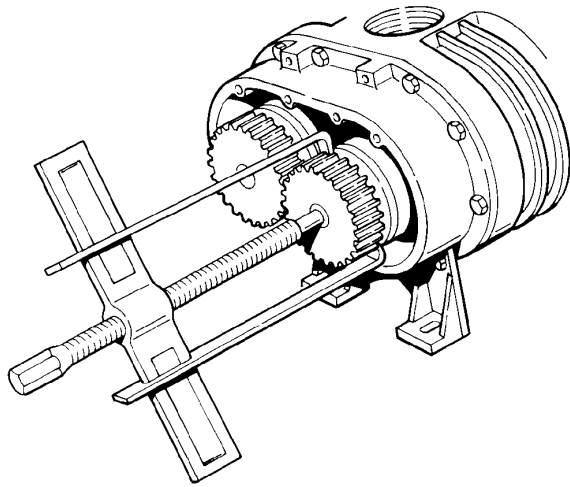

FIGURE 14
6. Using a gear puller, remove timing gears. The taper pin should back out with the gear as the gear is being removed (see FIGURE 14). Use caution not to damage gear teeth with puller if gears are to be used again.